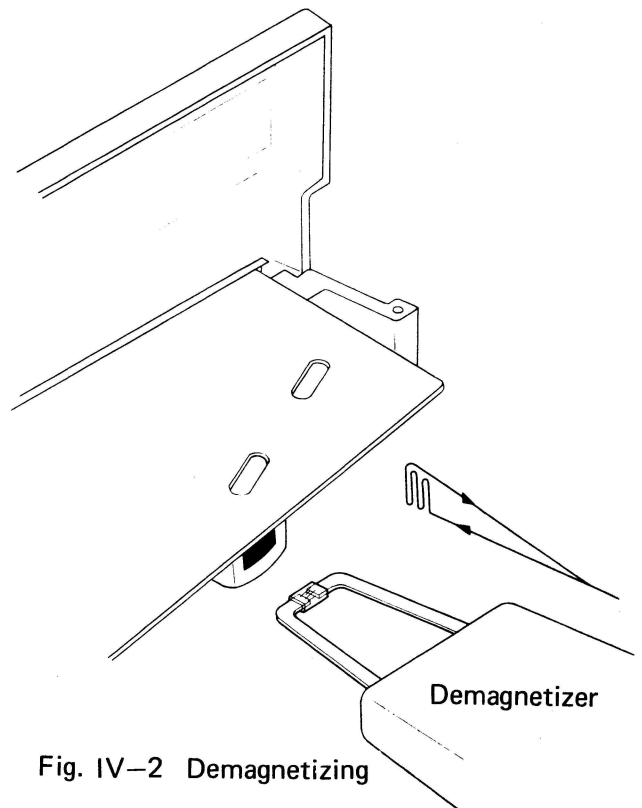

Fig. IV-2 Demagnetizing
5. Move the demagnetizer tips slowly close to the head, lightly touch to the face of one head stack and slowly move the tips up and down the stack several times. Then slowly withdraw the demagnetizer as shown in Fig. IV-2.